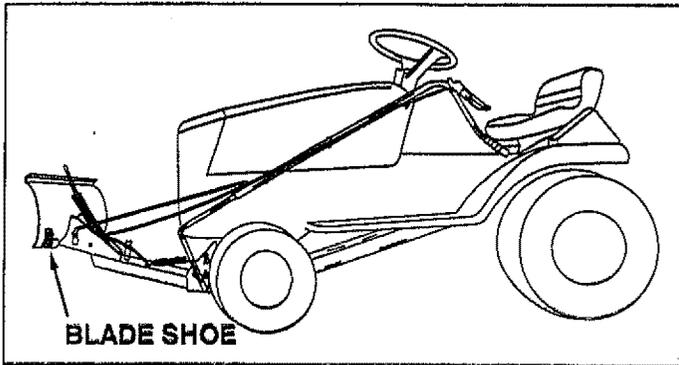

FIGURE 33
- Blade shoes on ends of blade may be raised for close work on smooth surfaces or lowered to raise the blade to work on rough or uneven areas. Make sure both shoes are set evenly and nuts are tightened securely. See figure 33.